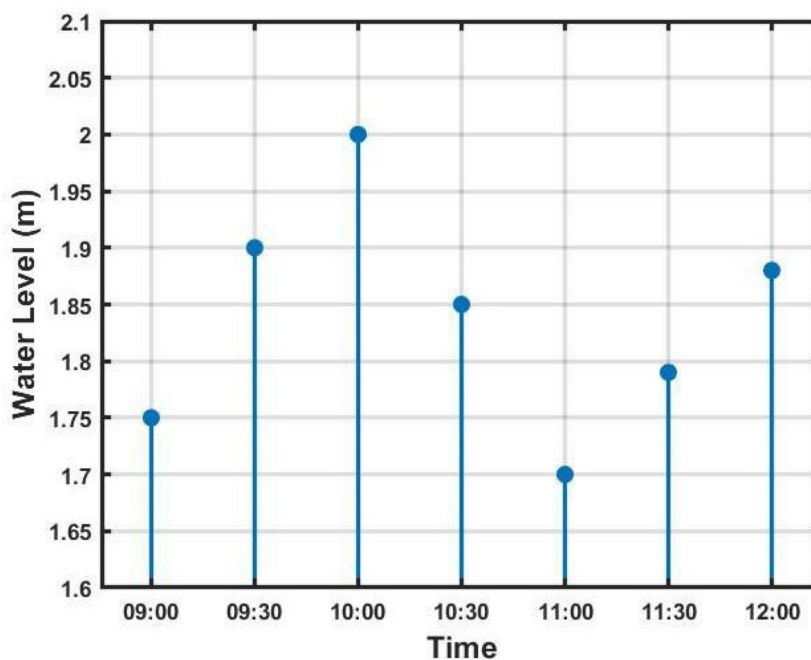

Figure 3.12: A Discrete-time Graph showing Water level Readings
By sampling the water levels at fixed 30-minute intervals, a discrete-time signal is created as shown in **Figure 3.12**.
This will give a discrete range of  $x[1] - x[7]$  for the sampled graph as shown in **Figure 3.12**, with  $x[1]$  having a value of 1.75m and  $x[2]$  having a value of 1.90m as shown in **Table 3.3**.
**Example:** Apply the above equations to the water level reading at 12:00 from **Figure 3.12** assuming the quantisation level is 0.1: